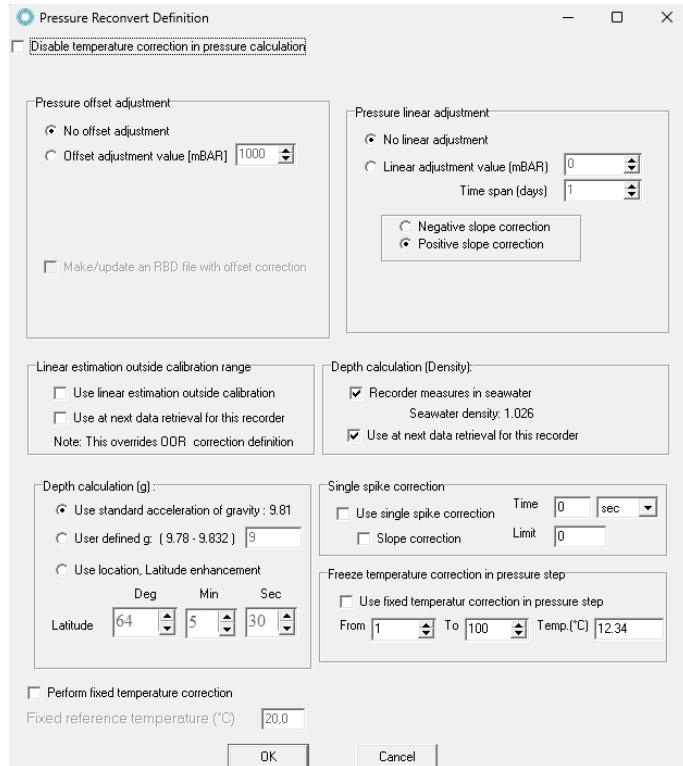

Figure 9.3: Pressure Reconversion menu
2. **Linear Adjustment:** Find the offset value after deployment by taking an average of in-air values. After determining the offset value, enter it in the Pressure linear adjustment window, shown in Figure 9.3. Input the duration of the measurement period in the 'Time span (days)'. The offset will then be adjusted linearly over this period.
In the **From** field (see Figure 9.3), enter the measurement number when the sensor hit the water, and in the **To** field, enter the number of the measurement when the temperature became stabilized. The temperature value of the latter measurement is entered in the **Temp** field. This fixed value is then used to correct the pressure value.